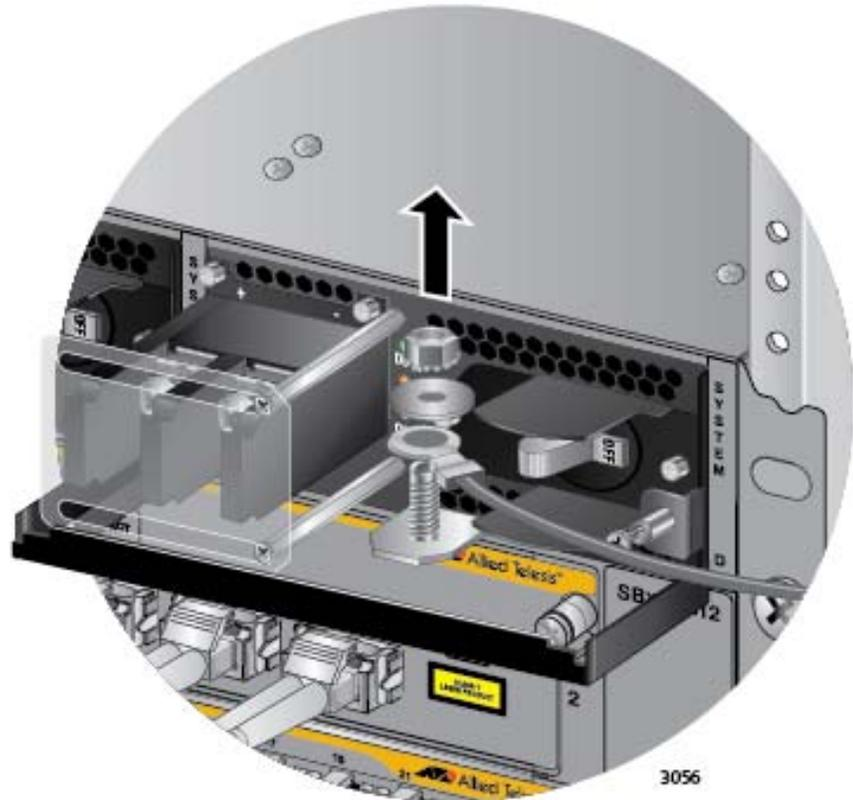

Figure 156. Removing the Grounding Wire
9. Use an 8 mm wrench to remove the grounding wire from the grounding post. Refer to Figure 156 on page 248.